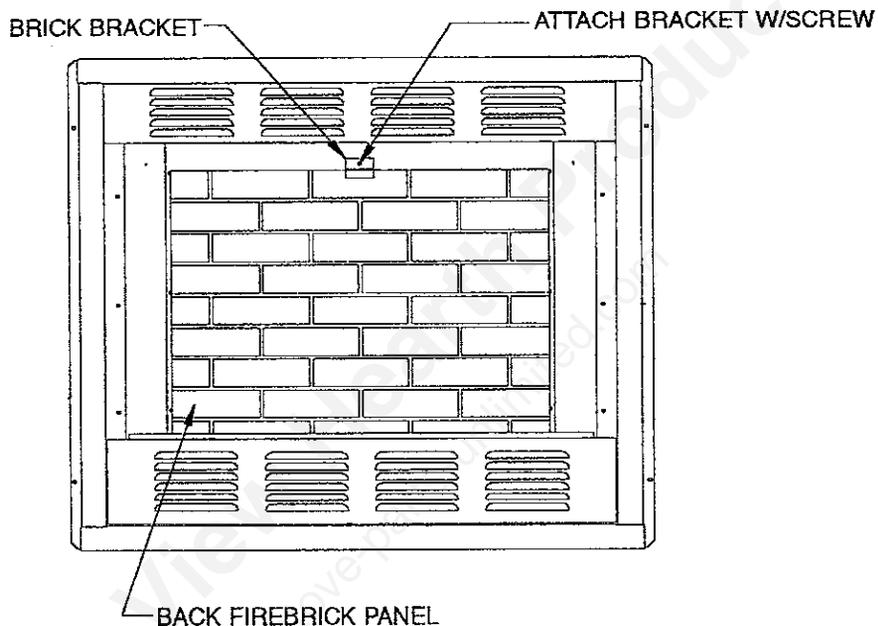

Figure 7a
1. Before installing the firebrick panels you must first remove the brick brackets. A 5/16" nut driver will be required. (See Figure 7a & b, below for location)
4. Place the back firebrick panel in the firebox, as shown in Figure 7a.